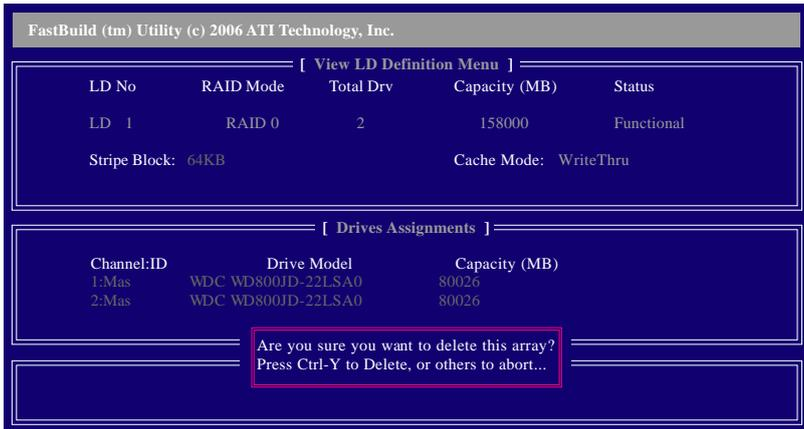

Figure 8
2. The **View LD Definition Menu** will appear (as shown in Figure 8) showing which drives are assigned to this array. Press <Ctrl>+<Y> if you are sure to delete the array or other keys to abort.